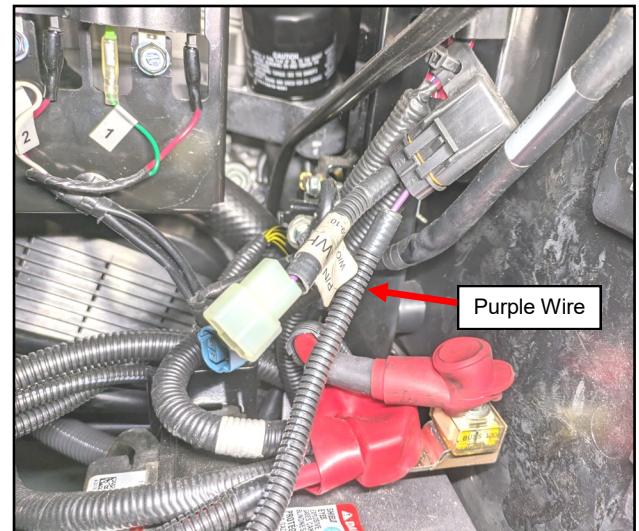

Fig. 4.9 (Alternator Harness)
- 4.9 Secure the fuse holder to the vehicle as shown in figure 4.9. Locate the purple wire on the A/C Power Supply Wire Harness and connect with the mating terminal on the Alternator Harness from the previous step. Note: the brown wire with the 4 pin connector will not be used. See fig. 4.9.